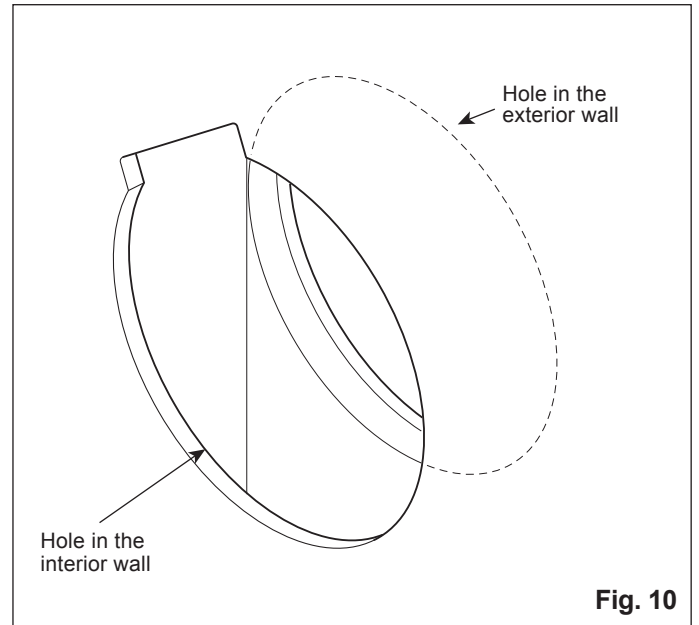

Fig. 10
1. Cut holes in the interior and exterior walls. (Fig. 10)